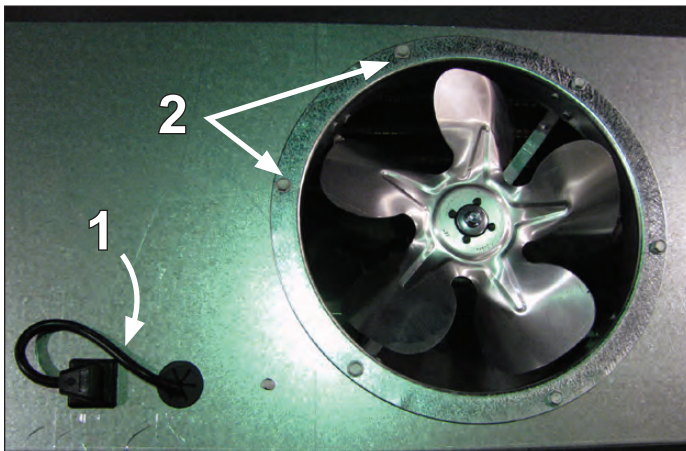

Fig. 17 Fan basket
1. Unplug the fan motor (Fig. 17), easily accessible outside the plenum. Be certain to push the power cord back through the plenum opening to avoid damage to the power cord.